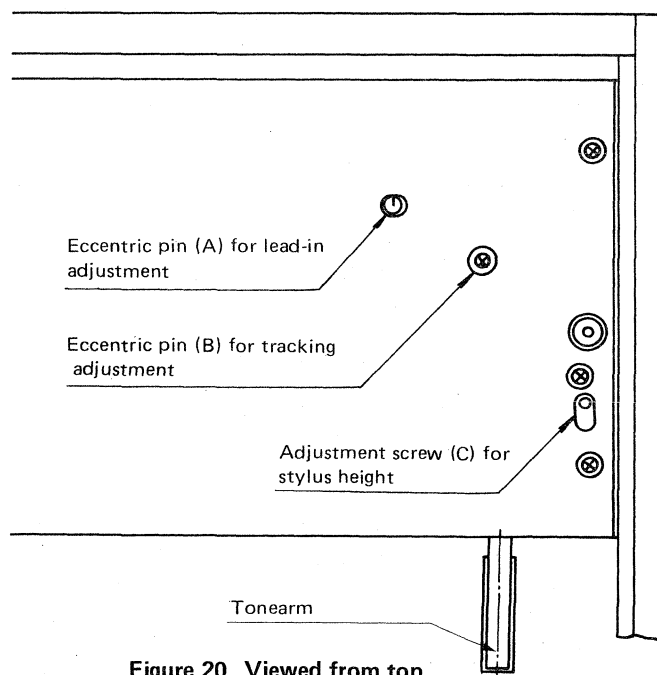

Figure 20 Viewed from top
- (1) Set turntable ready to play with a record disc and tonearm at rest position, and then switch off the power.
- (2) Adjust height of stylus within 4-6mm (normal 5mm) from surface of disc by turning adjustment screw (C). (See Fig. 20)
- (1) Use special test record disc of NEC-1008 which having diameter of 17 cm (EP).
- (2) Adjust eccentric pin (A)(Fig. 20) so that lead-in count becomes 20 to 28 counts. (85.1-84.33 mm radius from the center)
- (3) 30 cm (LP) lead-in position is fixed by the adjustment for 17 cm (EP) automatically.